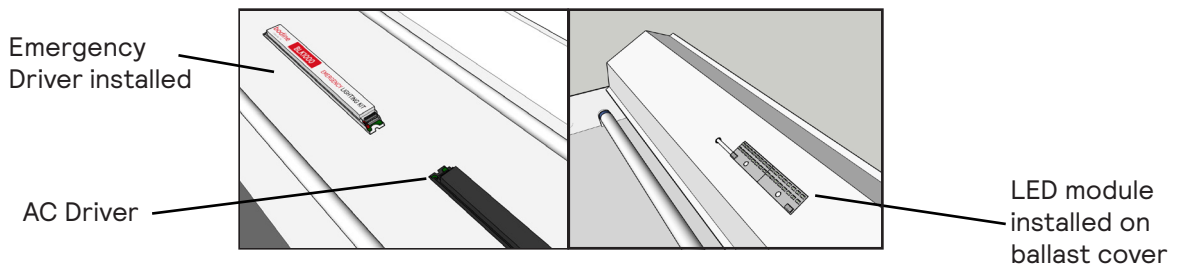

Figure 3. Installation location (driver to left and module to right)
- E. Per Figure 3, install the emergency driver using two of the four screws provided into the driver channel. Install the LED module using the other two screws provided onto the ballast cover on the side that is visible from the floor. Ensure secure installation of both emergency driver and LED module. Feed two-wire plenum rated cable through deburred/grommets 1/4" hole and wire to emergency driver and LED module per wiring diagram on Page 7 of these instructions.